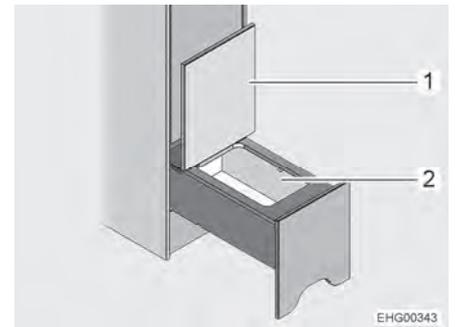

Fig. 84 Storage compartment
- Fold the lid (Fig. 84,1) up. The storage compartment (Fig. 84,2) is accessible.